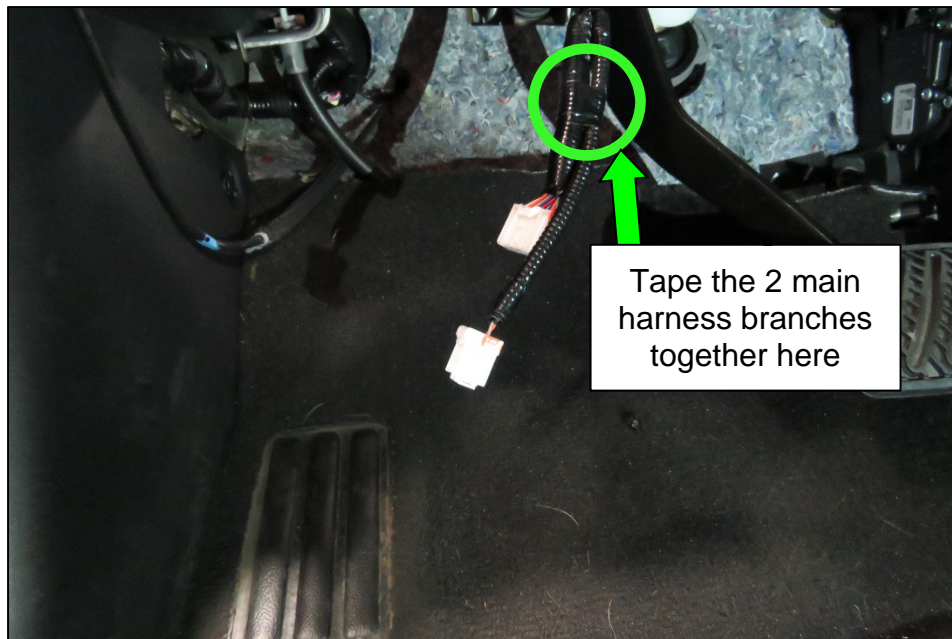

Figure 8
- Tape the 2 main harness branches back together like they were originally (Figure 8).